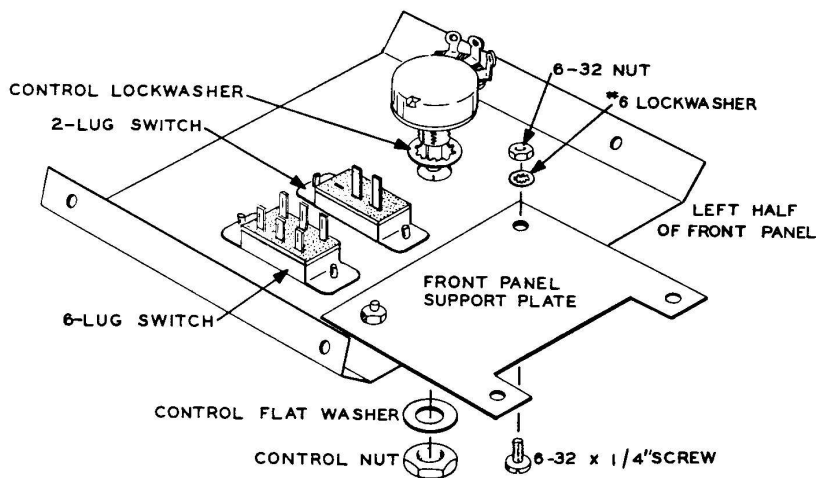

Figure 3F
Refer to Figures 3F and 3G for the following steps.
- ( ) Place the left half of the master front panel (with the large round hole and two rectangular holes) as it is shown in Figure 3F.
- ( ) Fasten the 5000  $\Omega$  control as shown in Figure 3F using a control lockwasher, control flat washer and a control nut.
- ( ) Fasten the 2-lug switch as it is shown in Figure 3F, using 6-32 x 1/4" screws. The two switch lugs should be positioned as shown.
- ( ) Fasten the front panel support plate to the front panel as shown in Figure 3F using 6-32 x 1/4" screws, #6 lockwashers, and 6-32 nuts. Do not tighten yet.